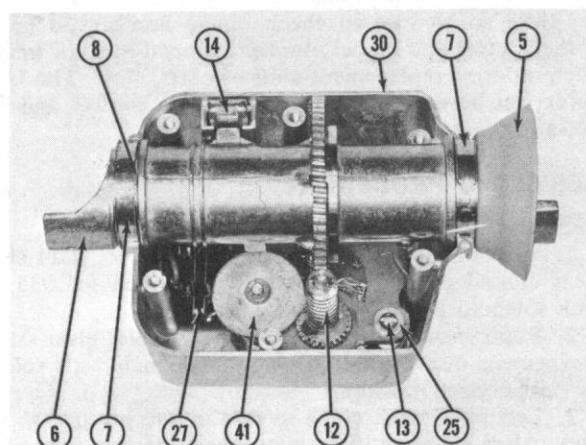

Fig. 53. Internal Components—Model U-100 Rotator Unit.
- Contact spring (Item No. 27) in the rotor unit must make contact only when cam lobe (Item No. 41) comes in contact with the switch. If shaft assembly (Item 6) is removed from the rotor unit, cam lobes must be $\frac{1}{2}$ turn away from contact points in end-stop position in both directions. See Fig. 53.